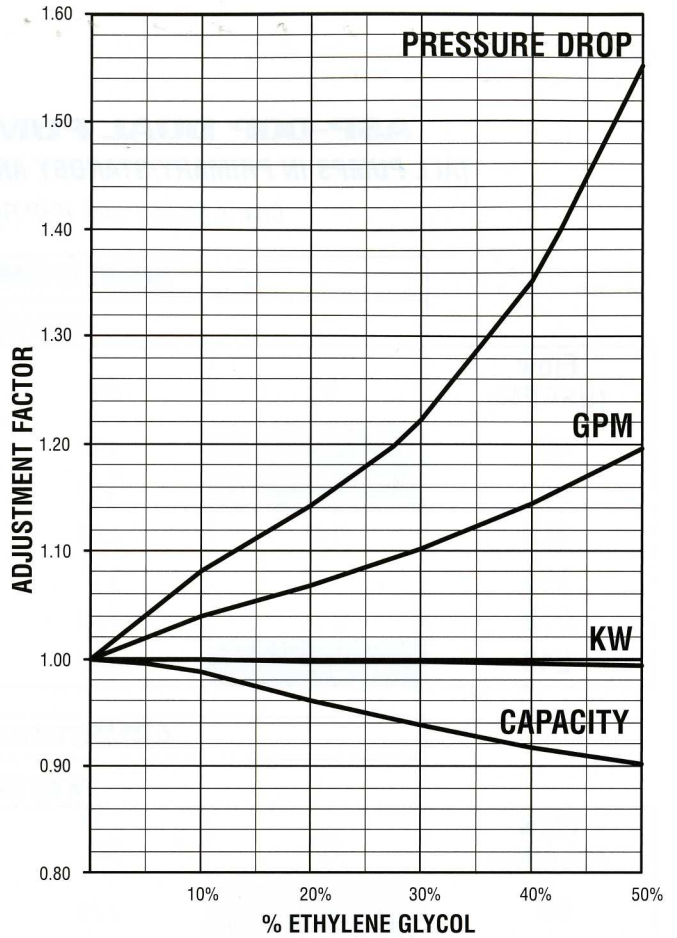

Figure 3. Ethylene Glycol Adjustment Factors
Ethylene Glycol adjustment factors (**Figure 3**) should be used to adjust performance depending on the percent of glycol use in the evaporator circuit. The factors in **Figure 3** are based on a 10°F change in fluid temperature through the evaporators.
3. To convert performance for water to performance with Ethylene Glycol read adjustment factors from **Figure 3** at 30% Glycol.